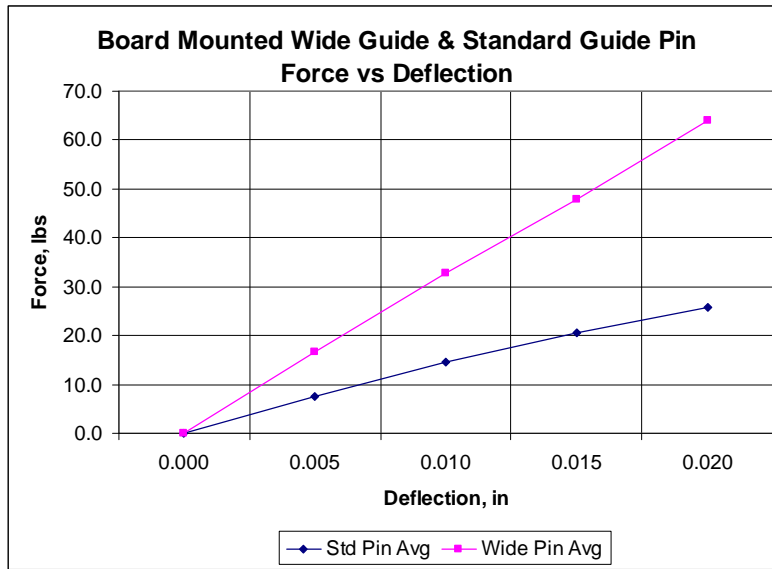

Figure 2: Guide Pin Force Vs Deflection Plot
2.5.5 For the guide pin daughtercard weight recommendations and guide pin force deflection, please refer to Table 3 and Figure 2. In addition there is also an ESD (electro-static discharge) guide module option for all Paladin connectors